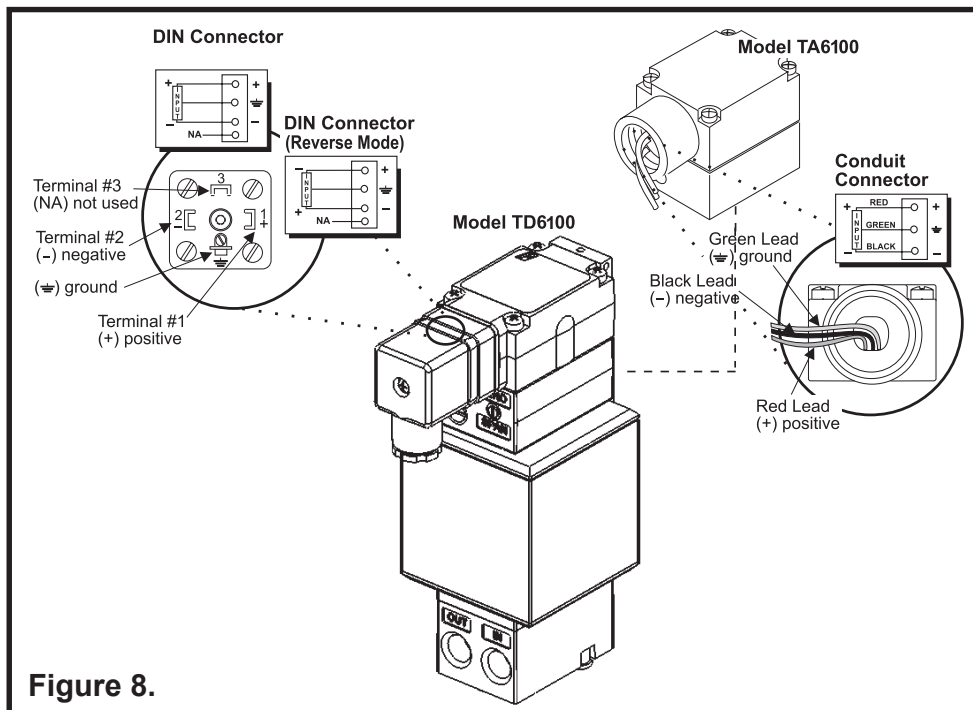

Figure 8.
see Figure 8.
1. Connect the input signal to the transducer as shown in Figure 8.
Make connections as shown in Figure 8.